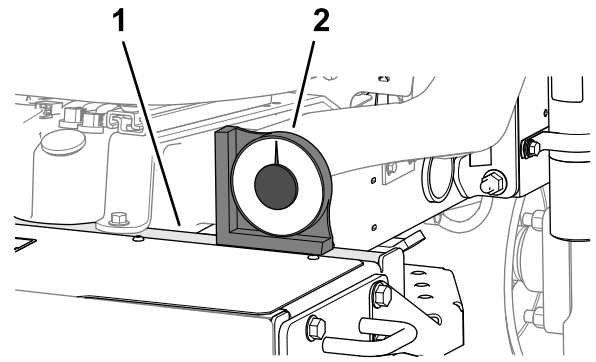

Figure 6
2. Verify that the machine is level by placing a handheld angle indicator (supplied with the machine) on the frame cross rail, by the fuel tank (Figure 6).